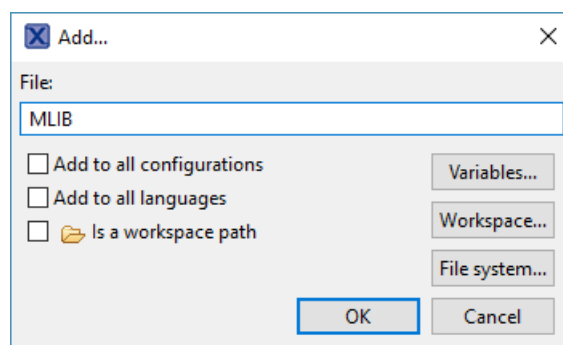

Figure 1-10. Library file inclusion
11. Type the following into the File text box (see Figure 1-10): :mlib.a